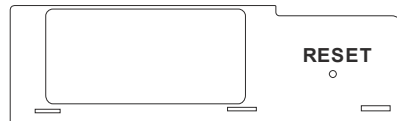

**Figure 70**
2. Gently pull out the HT lead and the valve cable from the receiver (see **Figure 70**).